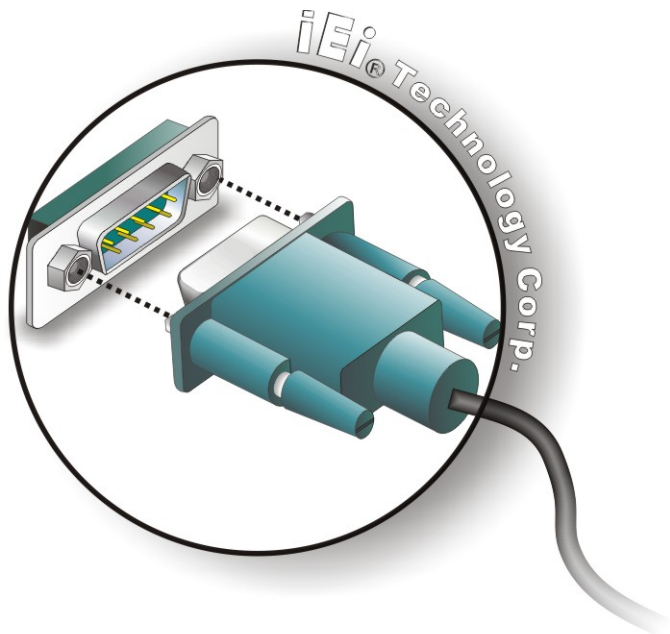

Figure 4-19: Serial Device Connector
Step 2: **Insert the serial connector.** Insert the DB-9 connector of a serial device into the DB-9 connector on the external peripheral interface. See **Figure 4-19**.